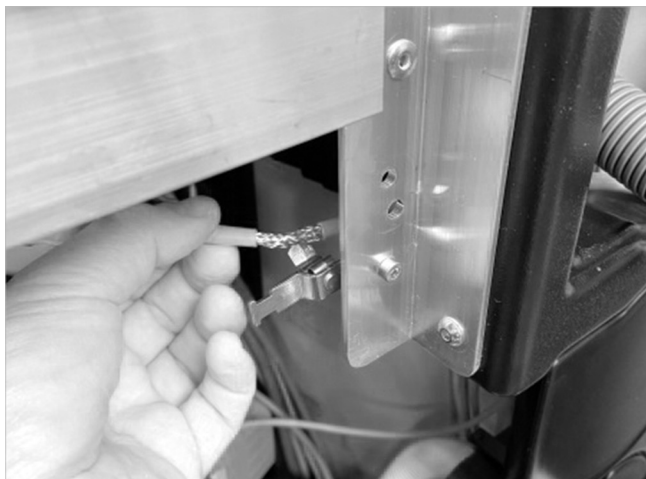
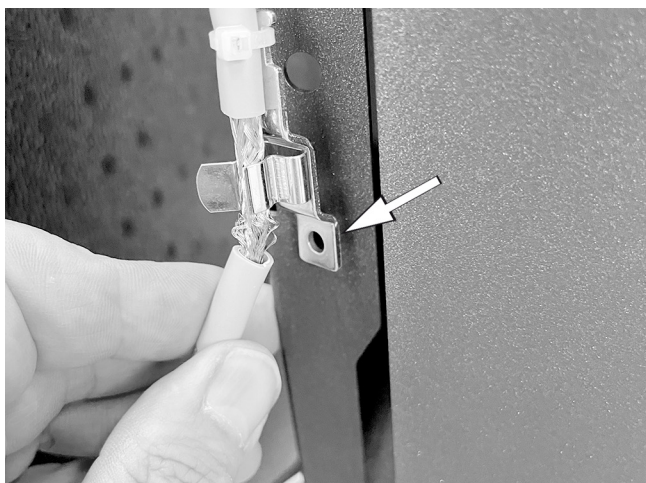

Fig. 5: Shield clamp on the frame of the SolvisMax charging module
Fig. 6: Attaching the shield clamp to the SolvisBen mains board door
3. Feed the Modbus cable with the shield into the shield terminal. For SolvisMax, screw the shield terminal to the frame of the charging module (see → fig. 5). For SolvisBen, attach the shield clamp to the circuit board door. To do this, hold the cable with the clamp (see → fig. 6), mark the position and drill a 4 mm hole. Then screw the shield clamp in place.